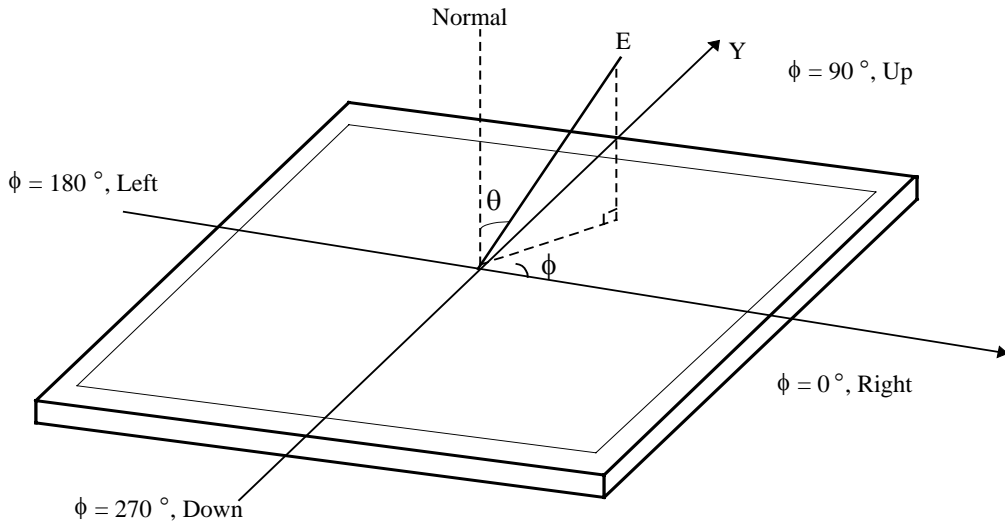
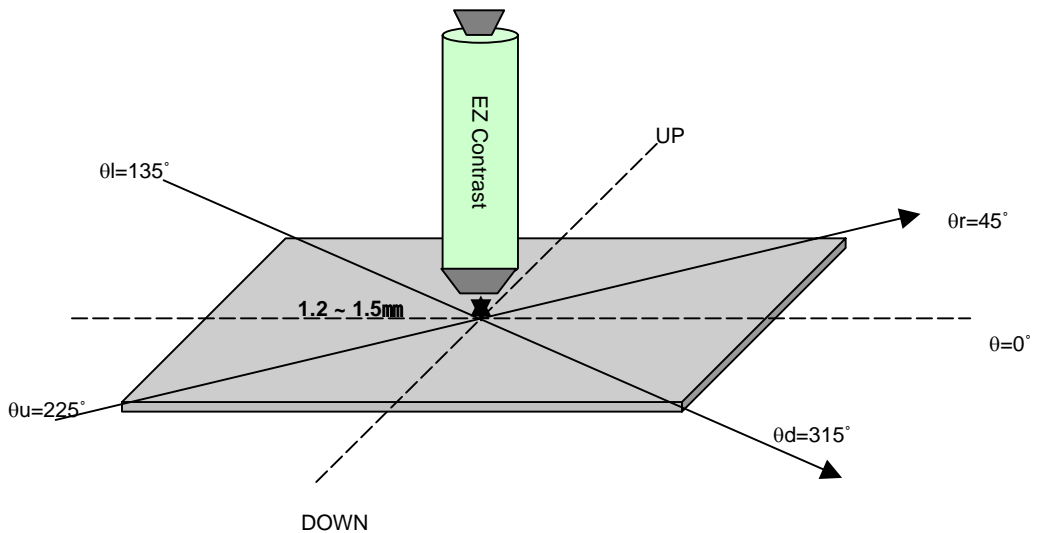

FIG. 4 Viewing Angle
FIG. 5 Diagonal Viewing Angle Measurement Condition
5. Viewing angle is the angle at which the contrast ratio is greater than 10. The angles are determined for the horizontal or x axis and the vertical or y axis with respect to the z axis which is normal to the LCD module surface. For more information, see the FIG. 4. FIG 5.